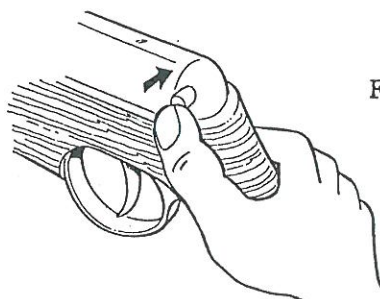

FIG 4
4) RELEASE THE SAFETY CATCH BY PUSHING THE BUTTON IN FULLY (FIG.4). THE RIFLE IS NOW READY TO FIRE. THE SAFETY CATCH CANNOT BE RE-ENGAGED WITHOUT RE-COCKING THE RIFLE SO IT IS BEST NOT TO RELEASE THE SAFETY CATCH BEFORE YOU NEED TO. ONCE COCKED THE RIFLE CANNOT BE SAFELY DE-COCKED, NEVER FIRE THE RIFLE WITHOUT A PELLET. IF YOU HAVE LOADED AND CANNOT FIRE AT A TARGET BUT WANT TO MAKE THE RIFLE SAFE, FIRE INTO SOFT GROUND.